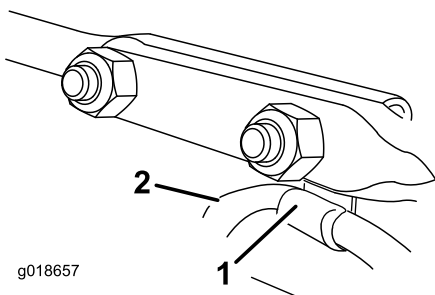

Figure 17
6. Insert the cable clip that supports the deflector cable onto the forward carriage bolt, and secure the carriage bolts with locknuts from the loose-parts bag (Figure 17).